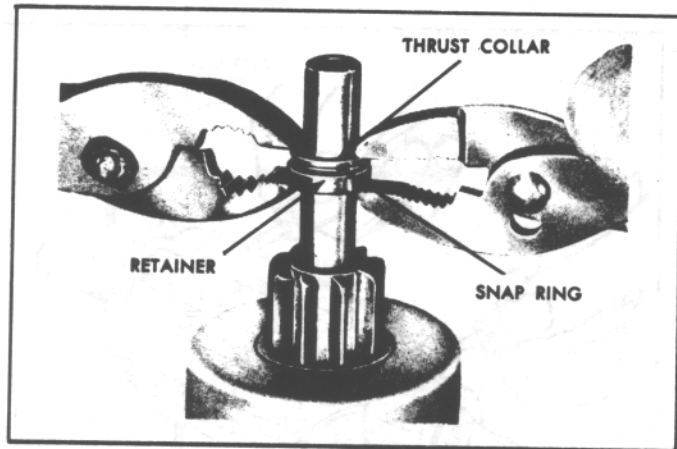

Fig. 142. Forcing Retainer Over Snap Ring.
- (c) To force the retainer over the snap ring, place a suitable washer over the shaft and squeeze retainer and washer together with pliers (Fig. 142).